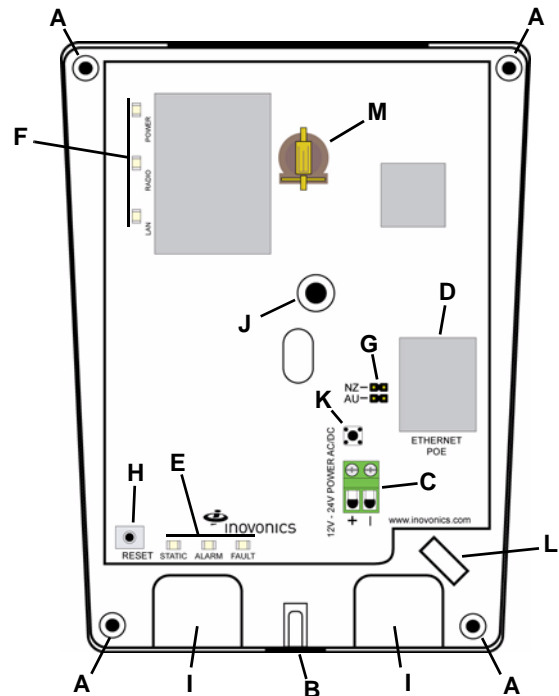

Figure 3 IBEX internal components
1. Use a Phillips screwdriver to loosen the housing cover release screw (Figure 3).
3. Connect power cabling to the Vs and GND connections (Figure 3).
4. Ensuring the polarity corresponds, connect DC power cabling to the + and - connections; AC power does not require specific polarity and can use either connection (Figure 3).
5. Route the power cabling through the cabling ports on the bottom of the housing (Figure 3).
7. Insert the backup battery in the battery holder (Figure 3).
8. Place a selection jumper on the frequency band selection pins appropriate to your geographic area (Figure 3).
9. Press the reset button to complete configuration (Figure 3).
10. Connect one end of a RJ45 patch cable to the RJ45 Ethernet jack on the EN6080 area control gateway (Figure 3).
11. Route the Ethernet patch cable through the cabling ports on the bottom of the housing (Figure 3).
13. To relieve stress on the Ethernet and power cabling, secure it to the cabling tie loop with a tie (Figure 3).
15. Use the provided screws to mount the EN6080 area control gateway, making sure the EN6080 area control gateway is flush with the wall (Figure 3).
16. Attach the included screw to the wall through the wall tamper mounting hole (Figure 3).
17. Check that the housing tamper spring is in place and makes contact with the top of the housing (Figure 3).